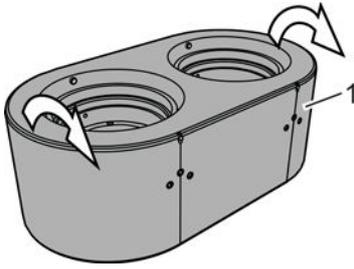

Fig. 121: Turning the bearing housing
- 4. Turn the bearing housing (Fig. 121/1) by 180° along the longitudinal axis.